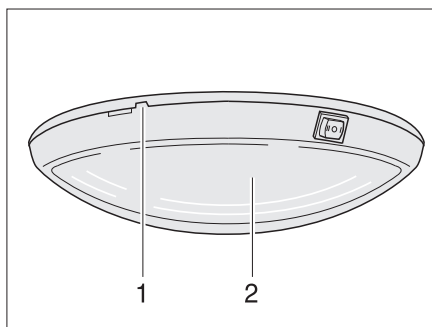

Fig. 104 Ceiling lamp
- Use a suitable tool (e.g. a screwdriver) to carefully lever out the cover (Fig. 104,2) at the notch (Fig. 104,1) and remove it.